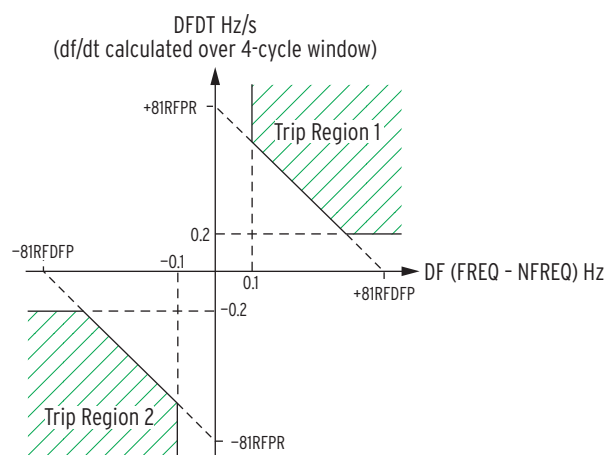

Figure 19 81RF Characteristics
The fast rate-of-change-of-frequency protection, 81RF, provides a faster response compared to frequency (81) and rate-of-change-of-frequency (81R) elements. Fast operating speed makes the 81RF element suitable for detecting islanding conditions. The element uses a characteristic (see *Figure 19*) based on the frequency deviation from nominal frequency ($DF = \text{FREQ} - \text{NFREQ}$) and the rate-of-change of frequency (DFDT) to detect islanding conditions.